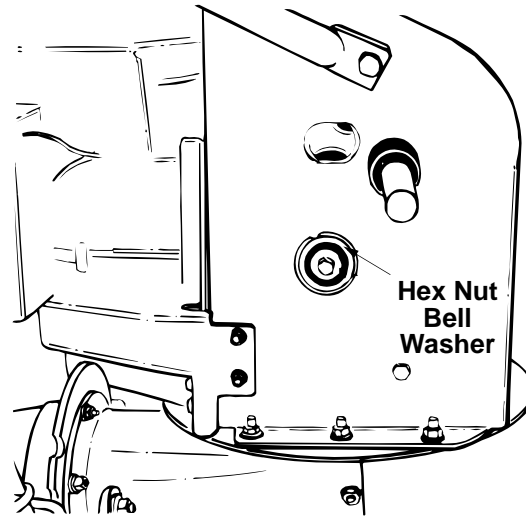

Figure 32
5. Using a 7/8" wrench to hold the shaft, loosen, but do not completely remove, the hex nut and bell washer on the left end of gear shaft. See Figure 32.